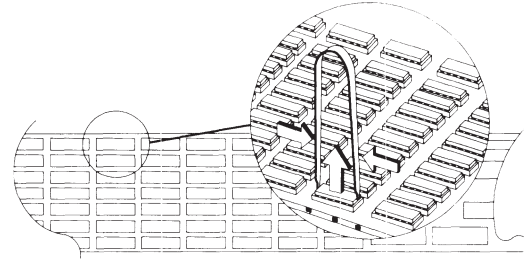

Figure 7-28. Removing the Memory Chip.
2. Using a memory chip removal tool, remove the memory chip (Figure 7-28).